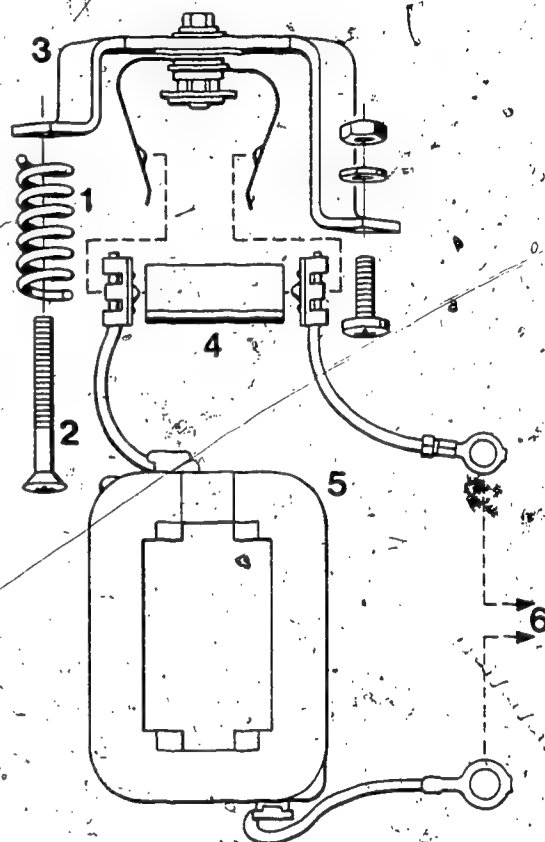
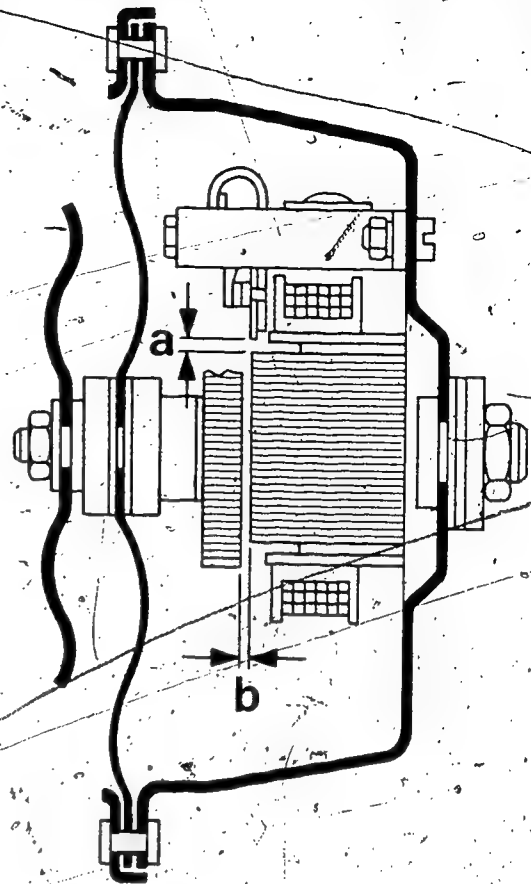

Fig. 1
Fig. 2
2. Attach the capacitor to a new contact breaker and screw the contact breaker into place (Fig. 1). When doing this, be sure to maintain a spacing of  $a = 1.0 \text{ mm} \pm 0.5$  between the iron solenoid core and the resitex contact breaker plate (Fig. 2). If necessary, adjust this spacing by bending the contact breaker support bracket. Attach the cables in the horn as in the original design, using adhesive 5 703 210 150.